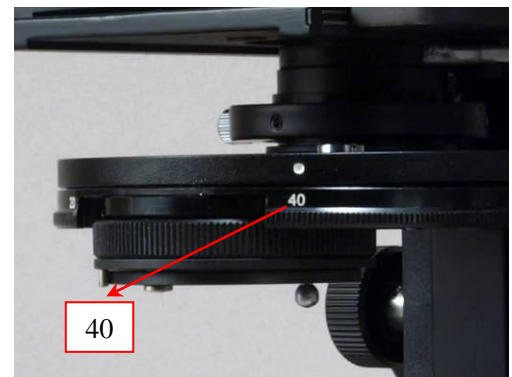

Fig.17
- 4) Turn the annular ring disk to put the corresponding ring into light path, i.e. if you are using the 40x phase contrast objective, you should turn the disk at 40 as shown in **Fig. 17**.